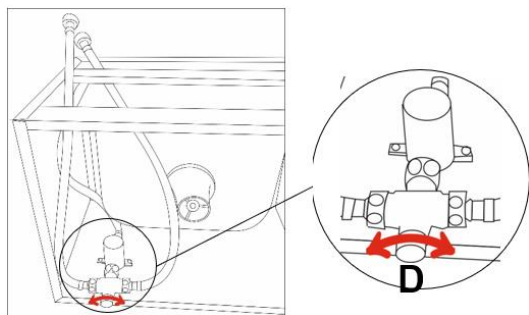

Fig.7
- The remaining two hoses should be connected to ends (B) and (C) using the BSP nuts $\frac{1}{2}$ ". Once the basin is duly fixed on the wall, the other ends of these hoses have to be attached with the BSP nuts $\frac{1}{2}$ " to the premises hot and cold-water inlets respectively.
- Fix the set (Mixer + Pulsator + Hoses) in the interior part of the front panel with the 2 screws provided and, in the position, showed in the Fig. 7. The knee button must be located on the outside of the front panel.
- Connect the end of the hose from the position "A" to the water entrance of the faucet. (Fig. 7)
See Fig 7 showing the position of the dial at the bottom of the mixer.